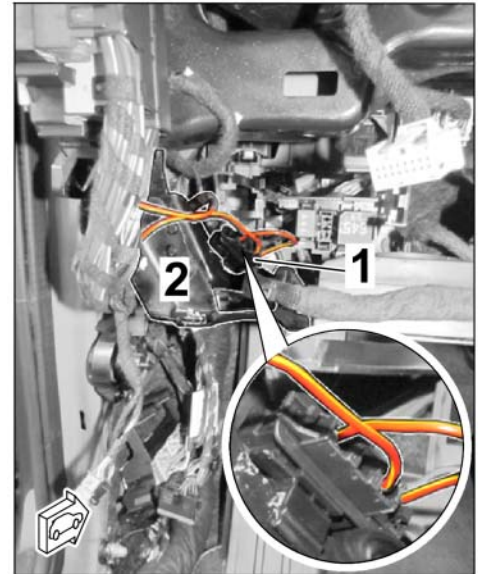

Figure 34
2.6.8 Install pin connector socket (3-pin) with clip onto the dashboard bracket and connect plug connection (3-pin) (\Rightarrow *Figure 34*).